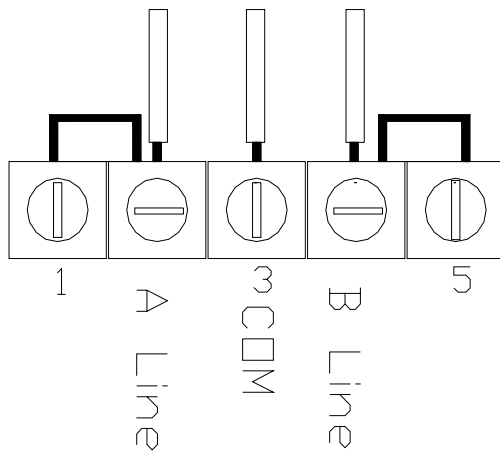

Fig. 1. Profibus Controller mAC 120.
4. Set the actuator's address from 1 to 127 using the address switches on the controller. See Fig. 1.